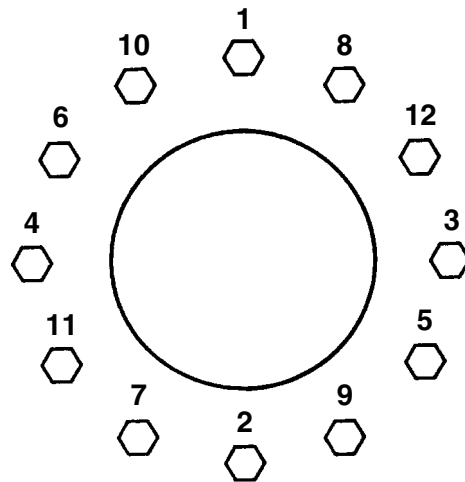

FIGURE 1. WHEEL BOLT TORQUE SEQUENCE
4. Tighten the wheel bolts to 298 Nm (220 pound-feet) in the sequence shown in Figure 1. Then tighten the wheel bolts in the same sequence to 640 to 720 Nm (475 to 530 pound-feet).